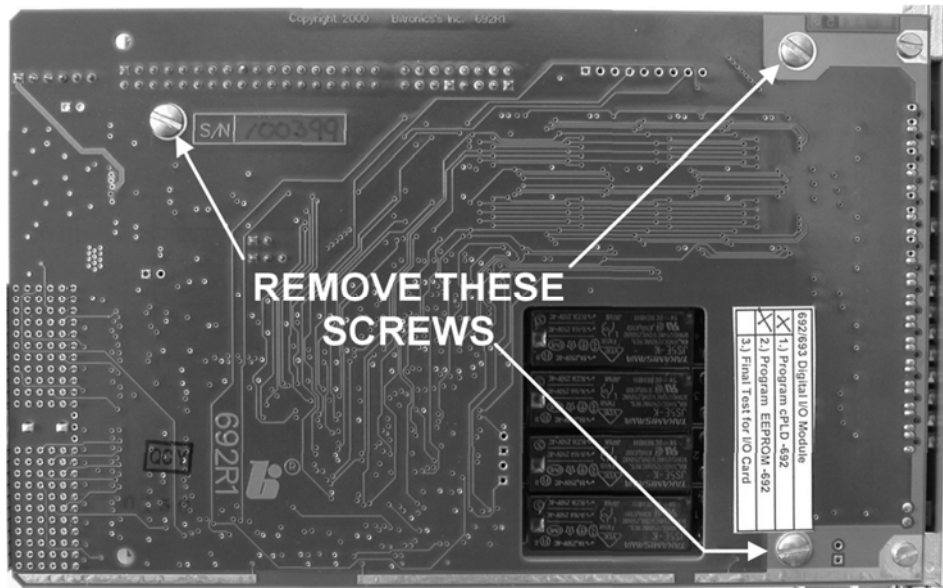

Figure 11- P30A Module Disassembly
1. Remove the six screws (three per side) indicated in Figure 11, and set aside the shields labeled PCB 712. Identify the main circuit boards that comprise the P31 assembly. They are labeled 693, 692, and 716.